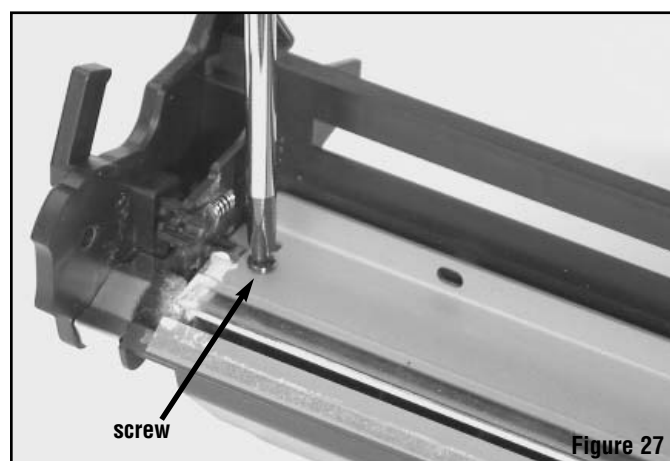

Figure 27
- e. Next, secure the Wiper Blade in place using 2 screws. See figure 27.